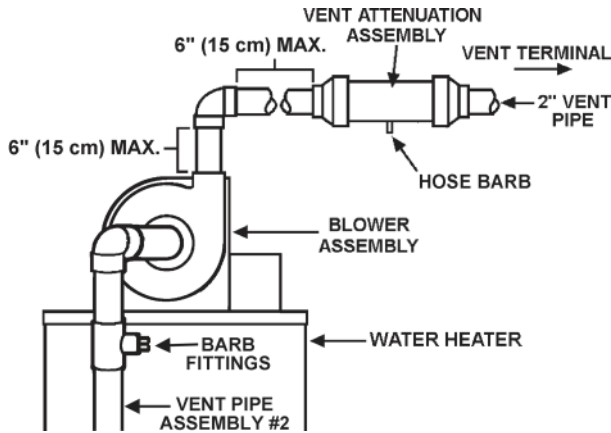

FIGURE 23: Typical Horizontal Installation
2. Following the vent pipe manufacturer's instruction, glue the two inch PVC pipe coming from the blower into the VAA. Make sure the 1/2" fitting is on the bottom side of the VAA. This will be used to run the condensate hose to a suitable drain. See typical vent installation in Figure 23.